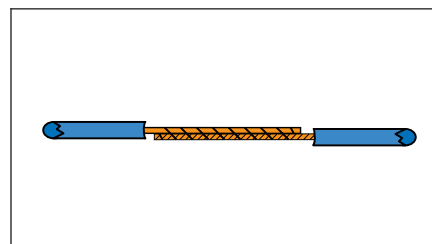

Figure 2 Line Up Wires
5. If possible, position wires on a flat surface so that the tinned lengths of wire overlap and are against each other (like the first two fingers on your hand) and the end of wire "a" butts against the ends of the insulation of wire "b." (See Figure 2.) If identical lengths of insulation were removed, then the end of wire "b" will butt against the insulation of wire "a." If it is not possible to position the wires on a flat surface, then position the wires as described above and secure in position using hemostats, alligator clips, etc. As a last ditch expedient, the wires can be tack soldered into the described position. If tack soldered, do not add solder, just heat the wires sufficiently to achieve a solder bond between the tinned wires.